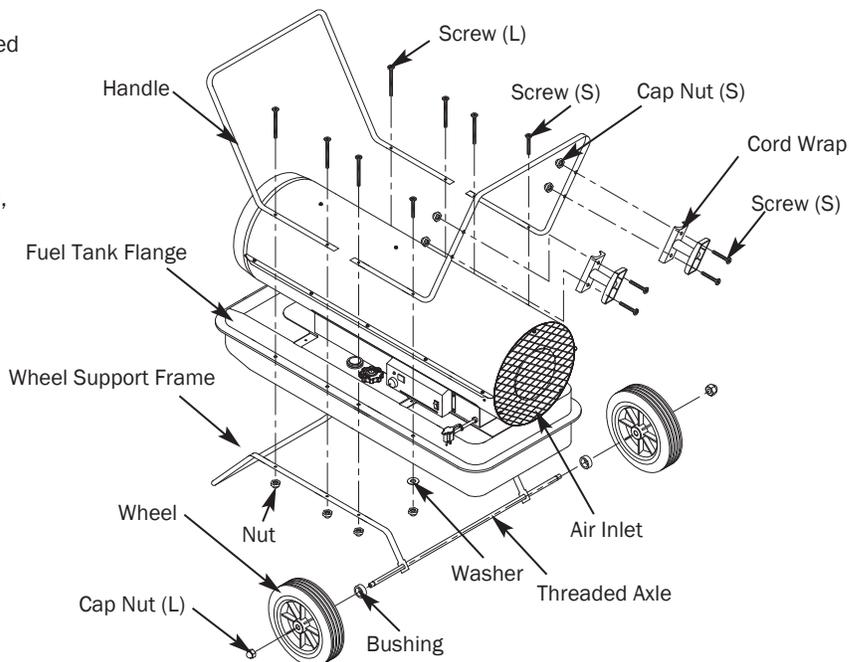

Figure 4 – Wheel and Handle Assembly
4. Place heater on wheel support frame. Make sure air inlet end (rear) of heater is over wheels. Align the holes on fuel tank flange. Insert screws(L) through handles (front and Rear), fuel tank flange, and wheel support frame. Insert screws(S) through rear handle, fuel tank flange, and washer(S) as shown in figure 4 and attach nut finger tight after each screw is inserted.
7. Insert screws through cord wrap, rear handle as shown in Figure 4 and attach nut finger tight after each screw is inserted.